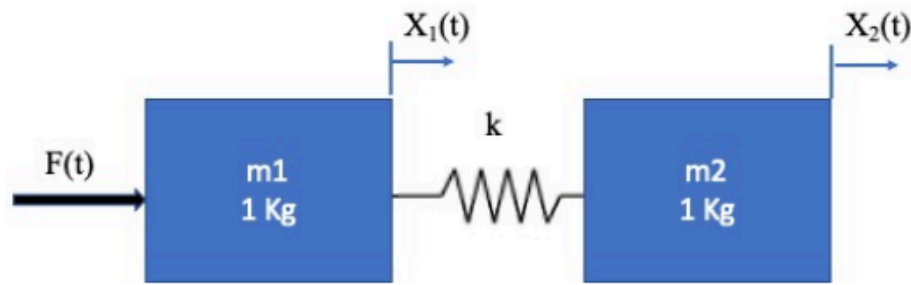

Figure 7: Two connected masses on a frictionless surface
7. Q7. Which is the transfer function $\frac{X_2(s)}{F(s)}$ for the system shown in Figure 7? Both masses slide on a frictionless surface and $k = 1 \text{ N/m}$. (Consider zero initial conditions). [hint = write the equations of motion]